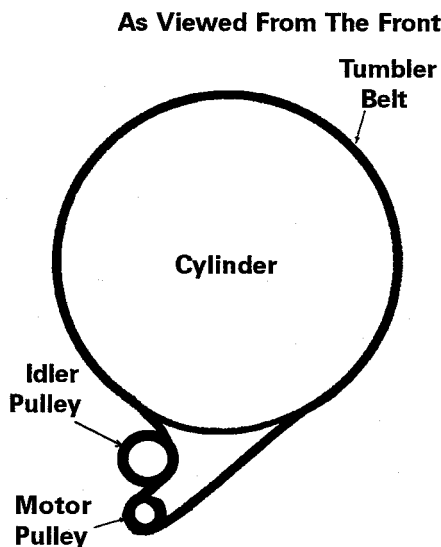

Figure 2-39
9. Grasp baffles with both hands and rotate tumbler 1 or 2 turns clockwise to allow the belt to align itself, *see Figure 2-39*.